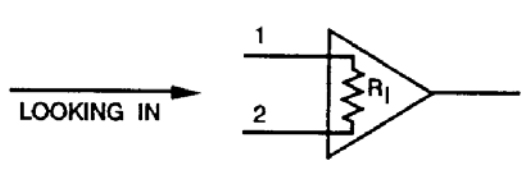

Figure Q-34. Input Resistance
(3) The gain is the output voltage (V_O) divided by the differential input voltage (V_{id}). The gain is listed as being infinite and is also negative, indicating inversion. This is an ideal value and will be much less because of supply voltages. An average value for gain is 5,000 to 100,000 times. This still leads one to think of tremendous output. To clear this point up, imagine a supply voltage of $\pm 20V$. The output can only be 40V P-P and the V_{id} levels would have to be very small because of such a large gain.
(4) Output offset voltage (V_{OO}) is the output voltage to ground or common when $V_{id} = 0V$. At this time, there is no difference between the two inputs so there should be no output, $V_{OO} = 0V$. In practice there is always some offset voltage; this is not very serious because external components can be added to correct the offset voltage to the 0 state.
(5) This 0V offset voltage state is referred to as common mode rejection (CMR). Ideally, CMR would be 0V but in practice there is some common mode (CM) voltage at the output even though there is no difference at the input.
(6) The input resistance (R_i) is the resistance looking into the two inputs as seen in Figure Q-34. Ideally this value is ∞ ; however in practice, the value ranges from about 5k to more than 20M. This value is measured in the open loop hookup and can be increased by adding feedback so that op amps can be used with high resistance signal sources.